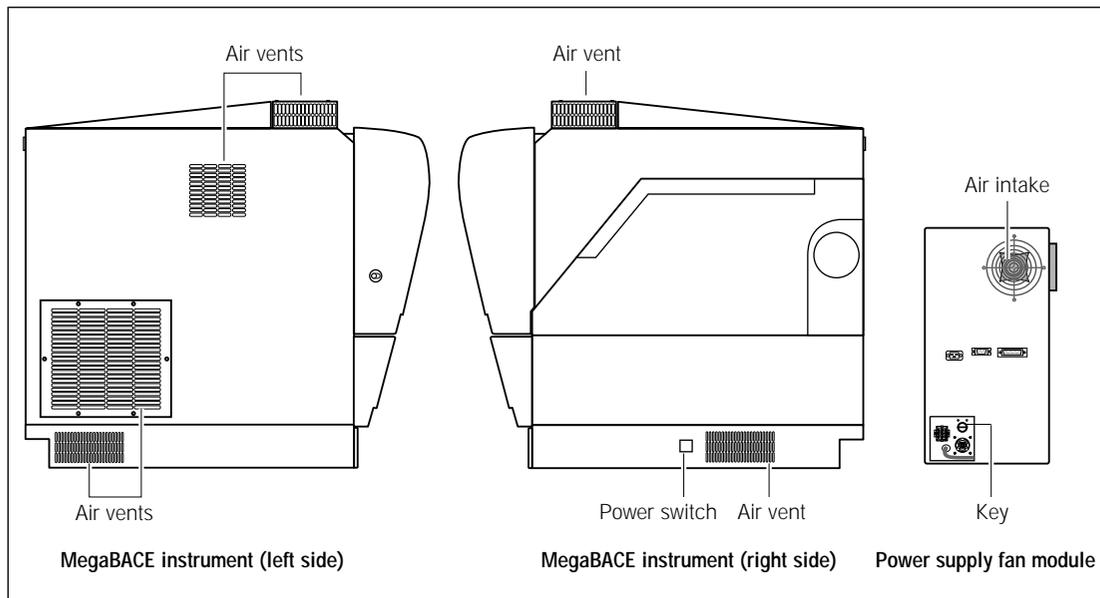

Figure 3-1. Make sure the airflow openings on the MegaBACE instrument and power supply fan module are free of obstructions.
- Nothing is blocking free air access to the air vents on the sides and top of the MegaBACE instrument and on the back of the power supply fan module (figure 3-1). The exhaust on the side of the power supply fan module can be connected to an exhaust hose that is vented out of the room. If the exhaust fan is external to the power supply fan module, make sure the fan is on. You should plug the power supply fan module into an uninterruptible power supply (UPS).
- The power supply fan module is plugged in, and the key on the back of the unit is in the horizontal (on) position (figure 3-1).
1. Turn on the power switch on the right side of the instrument (figure 3-1). The instrument starts up and—